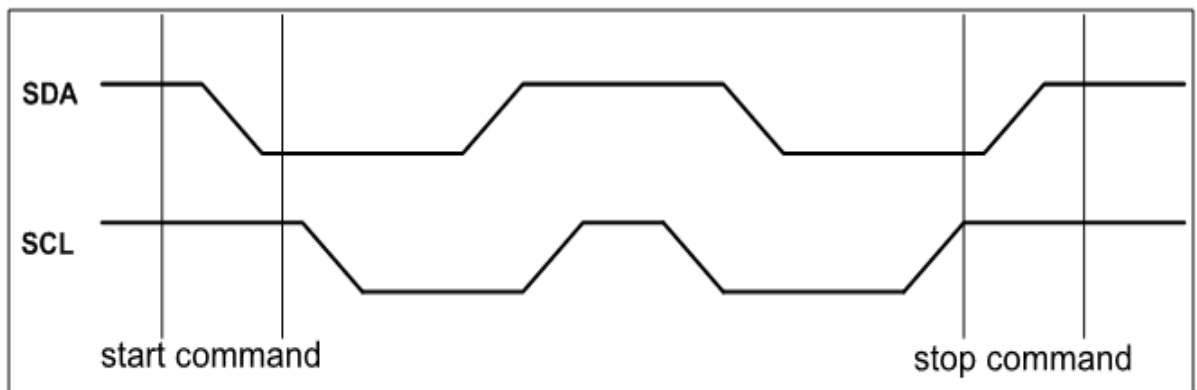

Figure 21-4 Start&Stop Condition Definition
**Start command:** When SCL is high, the change of SDA from high to low is regarded as the start command, and the start command must be used as the start of any read/write operation command (see Figure 21-4).
**Stop command:** When SCL is high, the change of SDA from low to high is regarded as a stop command. After a read operation, the stop command will make the EEPROM enter the wait state low power consumption mode (see Figure 21-4).